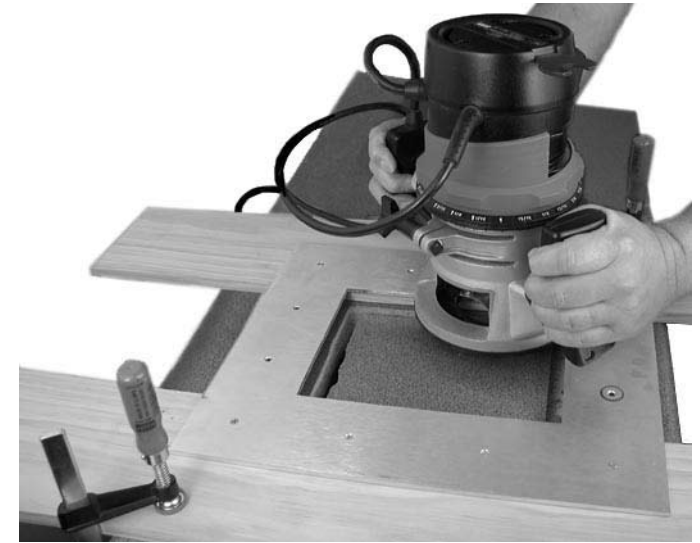

Figure 2-2 — Cutting the opening with a router
4. Using a router with a 5/8" (or 16 mm) outside diameter guide bushing and a 1/2" (or 12 mm or 12.7 mm) diameter straight router bit, carefully cut the opening in the surface (figure 2-2).